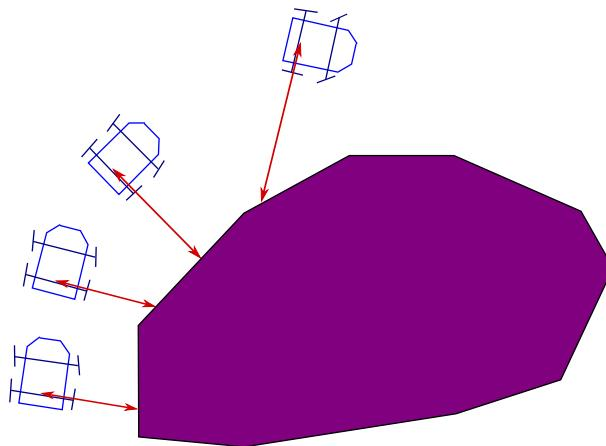

Figure 6.8: Car turning around a polygon
Here, we will address the case of a car which drives on an unknown road. The car is equipped with (i) a rangefinder which measures the lateral distance d between the rear axle of the car and the edge of the road, (ii) a speed sensor which measures the speed v of the front wheels, and (iii) an angle sensor which measures the angle δ of the steering wheel (for reasons of simplification, we will assume that δ corresponds also to the angle between the front wheels and the axis of the car). For our simulations, we will assume that our car is driving around a closed polygon as shown on Figure 6.8.
6) Test the behavior of your controller in the case where the car is turning around the polygon. Note that the system being controlled (in other words the turning car) by the controller is different than that it thinks it is controlling (i.e. a car in a straight line). You should obtain a behavior similar to that illustrated by Figure 6.8.